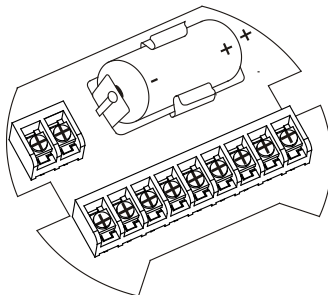

Figure 14. Battery Orientation
- Install new YPPABAT36C into battery clip with polarity as shown in Figure 14.